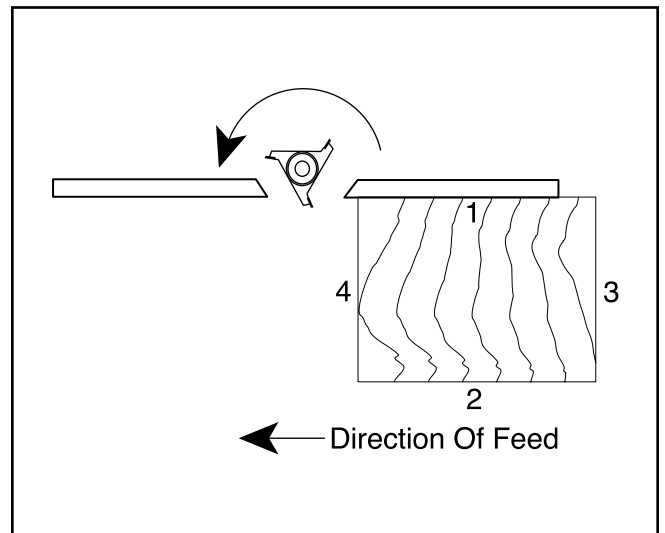

Figure 20. Cut sides with end grain first.
2. Cut the sides with the grain last, or in the sequence shown in **Figure 20**.